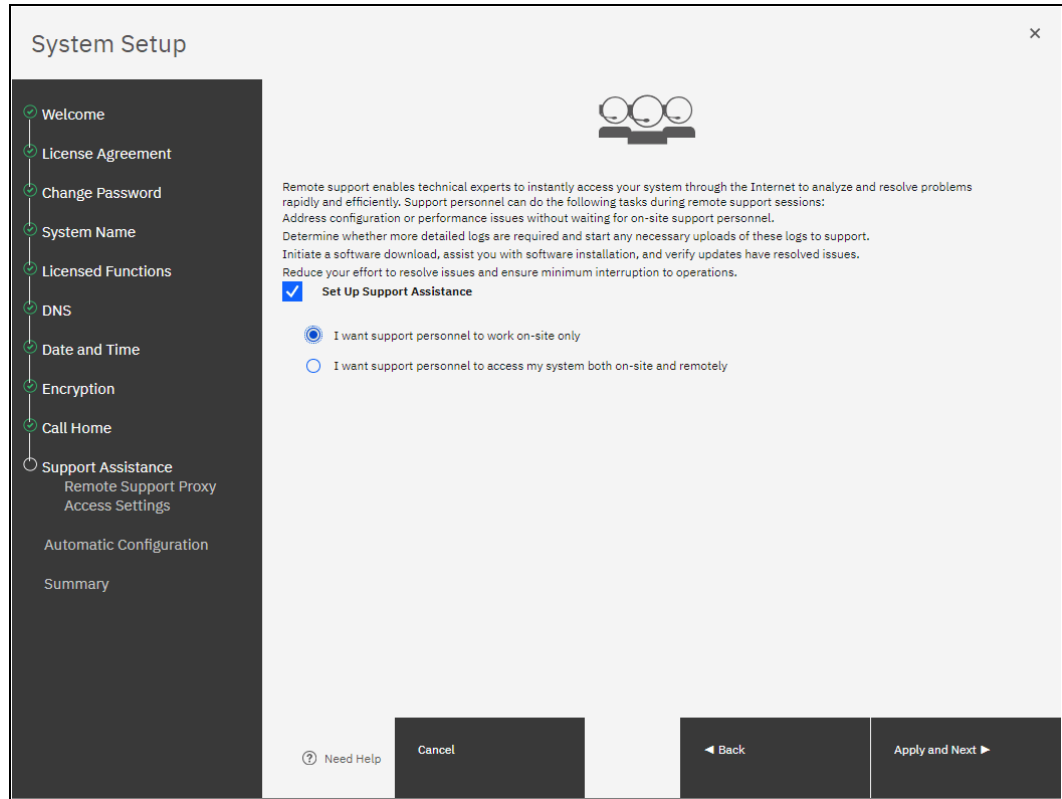

Figure 2-34 Setup Support Assistance
23. If you want to use the **Support Assistance** offering from IBM you can choose your options here (Figure 2-34 on page 45). If you enabled at least one Call Home method, the Support Assistance configuration window opens. The Support Assistance function requires Call Home; therefore, if it is disabled, Support Assistance cannot be used. Click **Next** to continue.